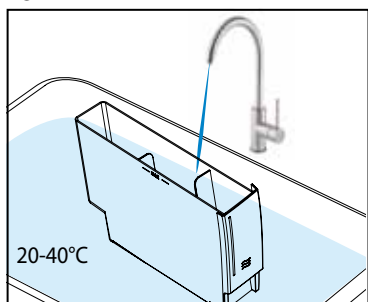

Fig.29
3. Rinse the water tank thoroughly with clean water, 20-40°C / 68-104°F. (See Fig.29)